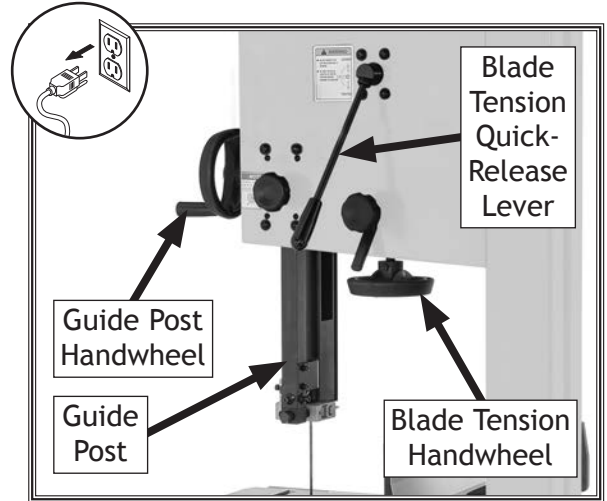
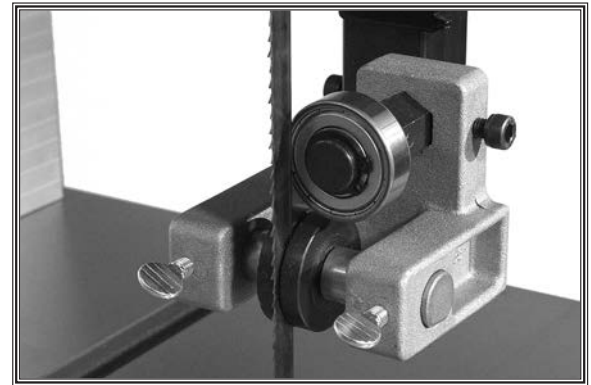

Figure 38. Blade tensioning controls.
Figure 39. Upper guide roller discs.
3. Use handwheel to fully raise guide post (see **Figure 38**), and move upper and lower support bearings and roller discs (see **Figure 39**) away from blade. Refer to **Pages 33-34** for more information.